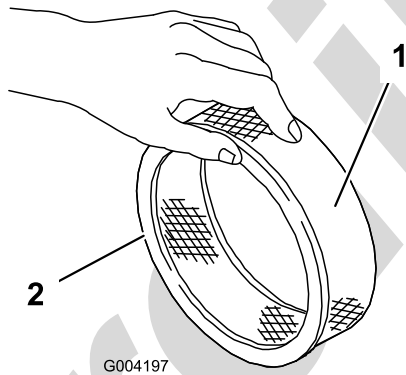

Figure 21
5. Lightly tap the paper filter on a flat surface to remove dust and dirt (Figure 21).
1. Carefully slide the foam pre-filter onto the paper filter (Figure 21).